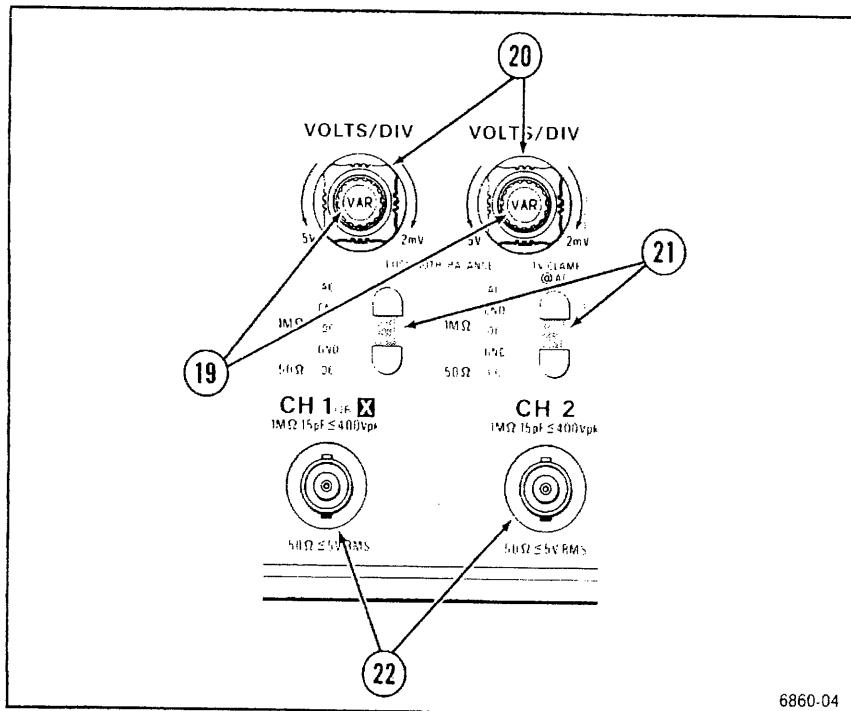

**Figure 5-2. SETUP and MODE buttons, and CH 1 and CH 2 POSITION controls.**
Refer to Figure 5-2 for the location of items 11 through 18.
- (14) **MEASURE Button** Activates the Parametric Measurements menu. Selections from the menu are made using the VERTICAL MODE buttons. Repeated activation of the MEASURE button will cycle through a series of explanatory text in the lower CRT readout.
- (15) **POSITION Controls** Set vertical position of the Channel 1 and Channel 2 signal displays. Clockwise rotation of a control moves the associated trace upward. When the X-Y display feature is in use, Channel 1 POSITION control moves the display horizontally; clockwise moves it to the right. The Channel 2, Channel 3, and Channel 4 vertical POSITION controls move the associated X-Y display vertically.
- (16) **MODE Buttons** Select the indicated channel(s) for display. Any combination of the five possible signal selections can be displayed by pressing the appropriate buttons. The Channel 1 signal will be displayed if none of the displays are selected. Each button has an associated indicator to show when the respective display or characteristic is active. Pressing a button toggles the display or characteristic on or off. When pressed after pressing SAVE or RECALL, these buttons select setup memories (1) through (8).